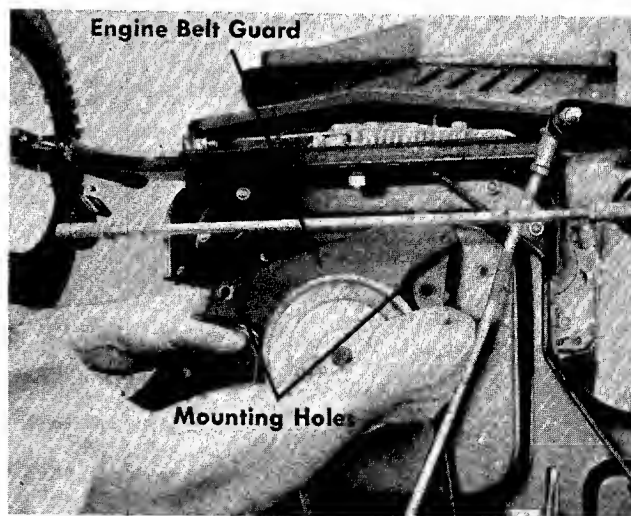

FIGURE 32. BELT GUARD REMOVAL
Step 7. Tip the deck down as shown in figure 32.